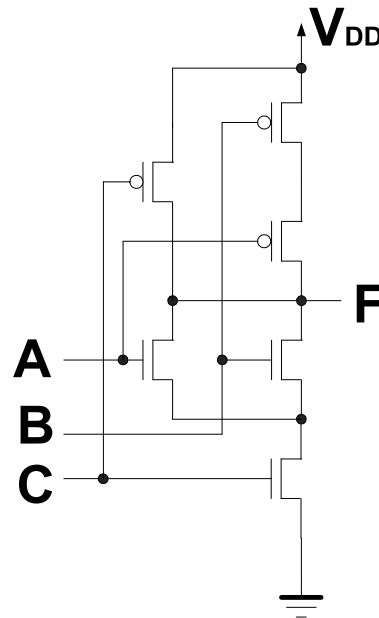

Figure 2 - CMOS circuit for question 2.
2. The logic function $F(A,B,C)$ implemented by the CMOS circuit shown in Figure 2 is: